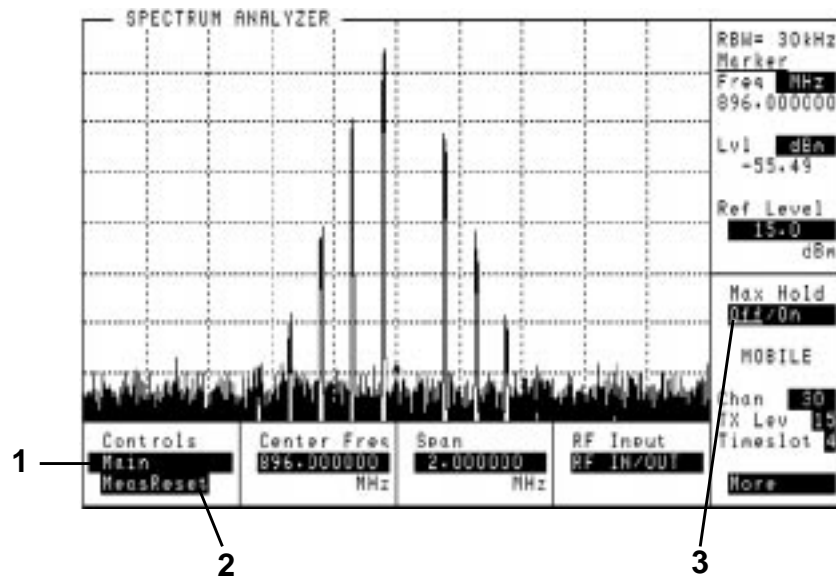

Figure 2-12
- **Main** - the default screen has basic spectrum analyzer functions, see Figure 2-12 on page 2-25.